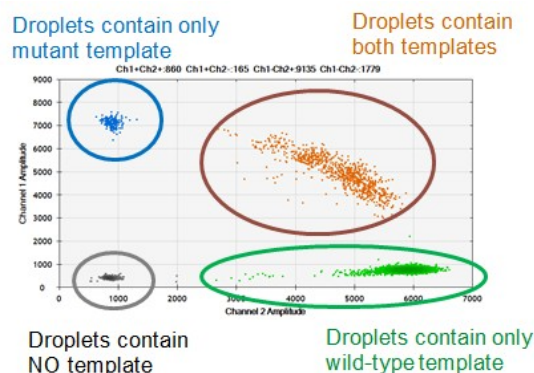

Fig. 1. Two-dimensional scatter plot demonstrating the four clusters obtained with a mutant and wild-type allele.
- Optimum annealing temperature range is determined based on the separation between four clusters (Figure 1)